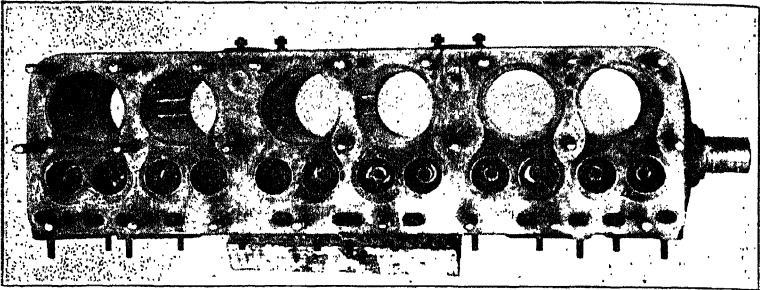

Fig. 15. Cylinders 3 and 5 of This Block Were Scored by Loose Piston Pins
**Visual Inspection.** A fault in the cylinder may be detected by turning the engine over by hand and similar methods. These only indicate trouble, however, and do not show what the trouble is. In order to find the trouble, it is usually necessary to make a visual inspection by removing the cylinder head and then turning the pistons to the bottom of the stroke. This will show up any items, such as the piston pin scores showing in cylinders No. 3 and 5, Fig. 15, which is an unretouched photo of a block which came into the shop for repairs.